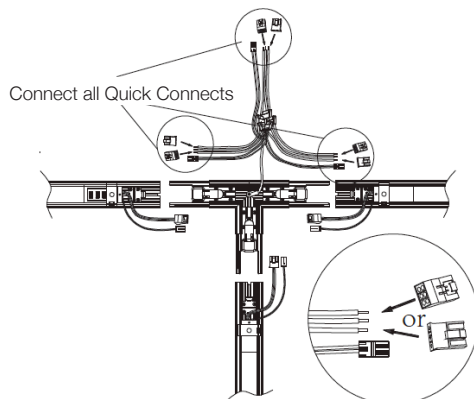

Fig. 4
4. Connect all power and dimming quick connects (Fig. 4 and 5). One fixture must be receiving power from the power cord (sold separately).